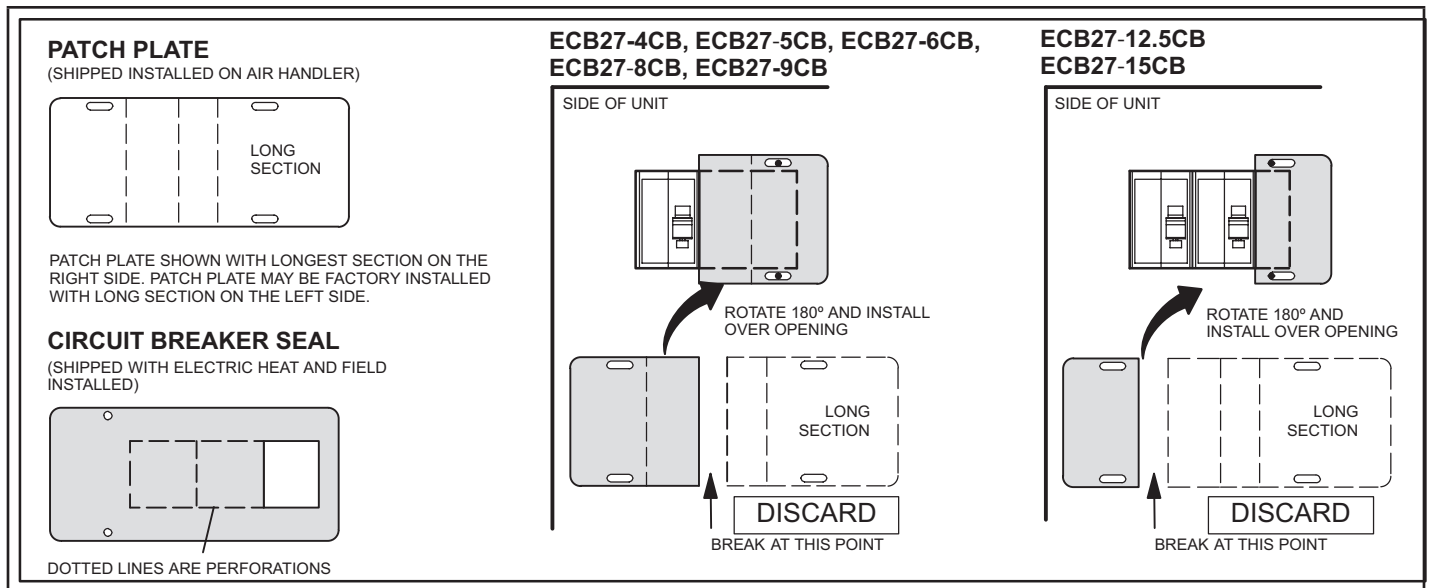

FIGURE 5. Circuit Breaker and Patch Plate Configuration (Select Cases in Air Handlers with Small Cabinets)
- 5 - Break the patch plate for the specific size of electric heat section that you are installing. Discard the unused piece of patch plate (see figures 5 and 6).